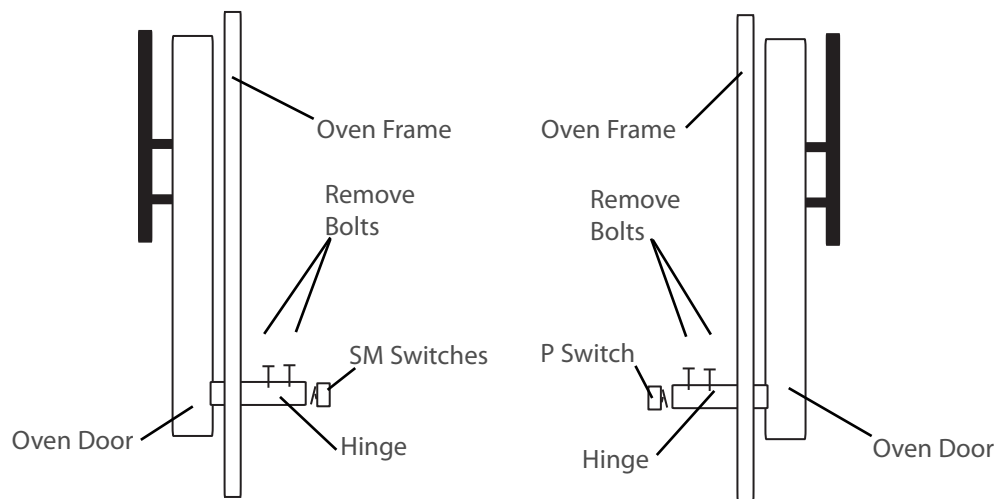

Figure 31A: Properly Adjusted Door - Side Views
4. Loosen the four screws that hold the hinge assembly to the gusset plates (Figure 31A).